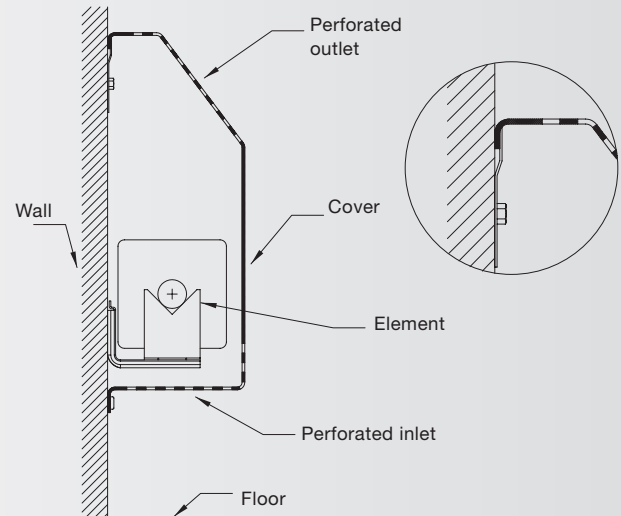

Figure S-5
- 5a. Place the cover over the element and the offset strip and push the cover until it locks into the strip. (Figure S-5)